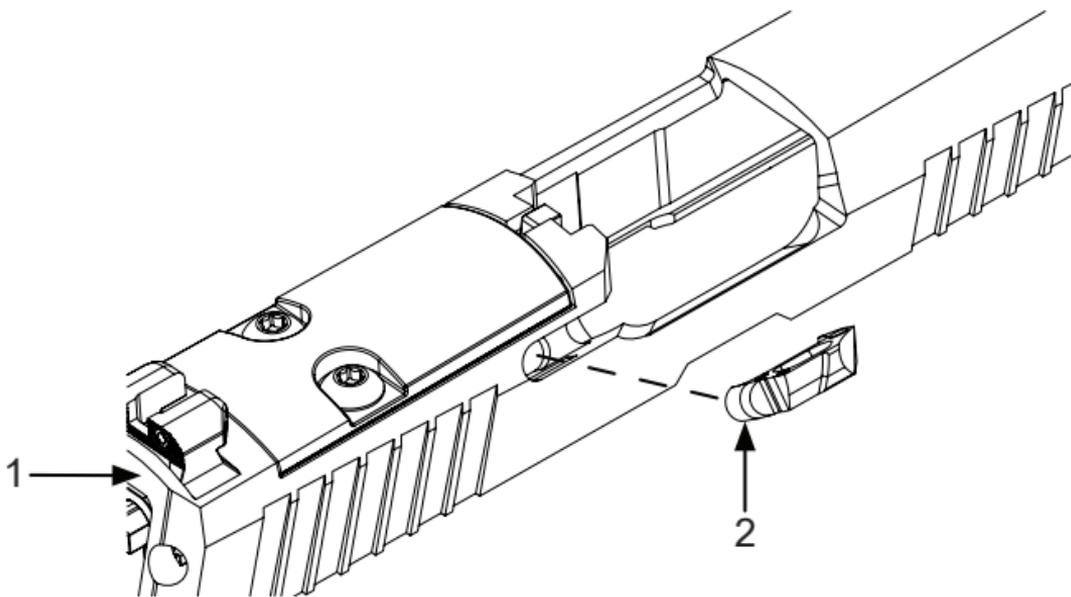

Figure 5. Extractor Removal.
5. Remove extractor (Figure 5, Item 2) from slide (Figure 5, Item 1).